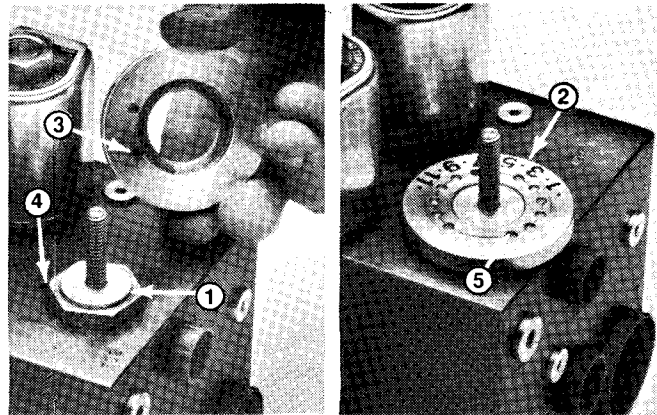

Figure 87
1. Lubricate all o-rings with clean hydraulic oil. Carefully thread cartridge into port by hand. Valve cartridge should go in easily without binding. Tighten cartridge to a torque of 35 ft-lb (Fig. 87).